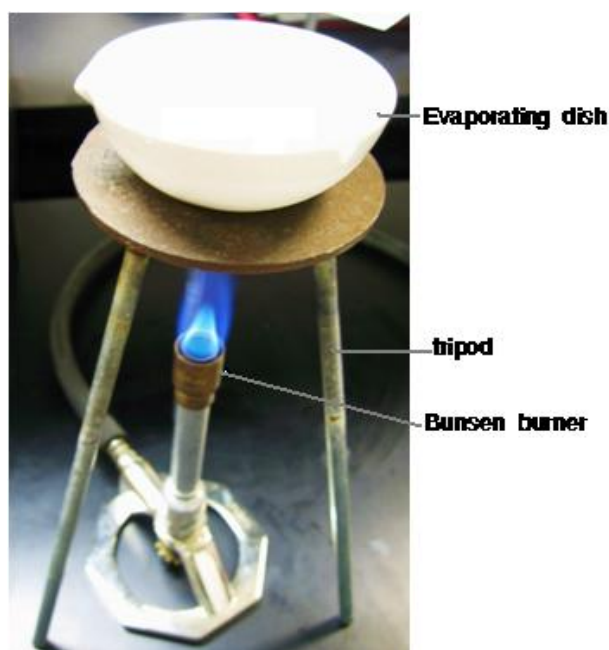

Figure6: Heating calcium metal in an evaporating dish
2. Heat it on a Bunsen burner as shown in figure 6.